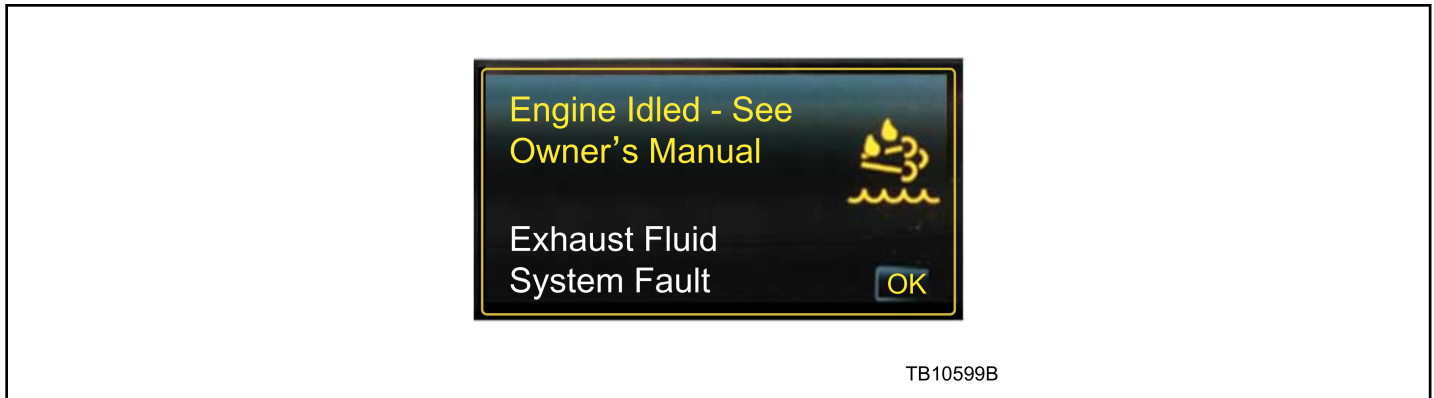

Figure 1 - Article 14-0192
3. Does the message center display Engine Idled - See Owner's Manual? (Figure 1)